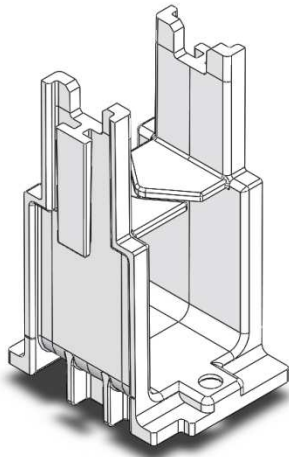

Figure 9
- 1.1.8 After attachment of the modules to the wall, insert the plastic expansion piece Fig. 9.